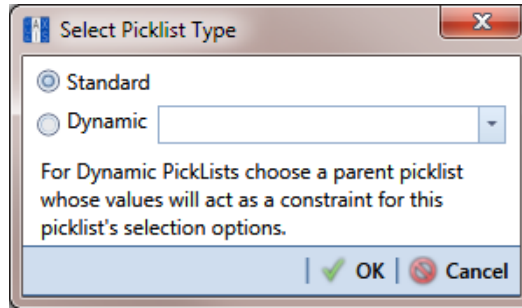

Figure 3-43. Select Picklist Type
- 4 Click  **Picklist** in the toolbar to open the *Select Picklist Type* dialog box (Figure 3-43).